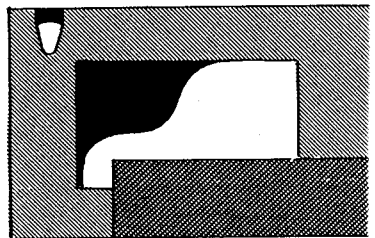

FIG. 495
6. Raise the tool slide until the cutting edge of the tool is above the top surface of the work (Fig. 495).